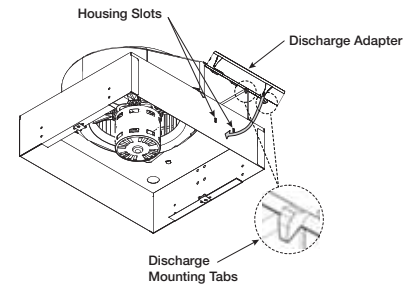

Figure 5 — Rotate and Engage Discharge ALL MODELS
2. Rotate discharge adapter until the two mounting tabs fully engage into the housing slots, shown in Figure 5.